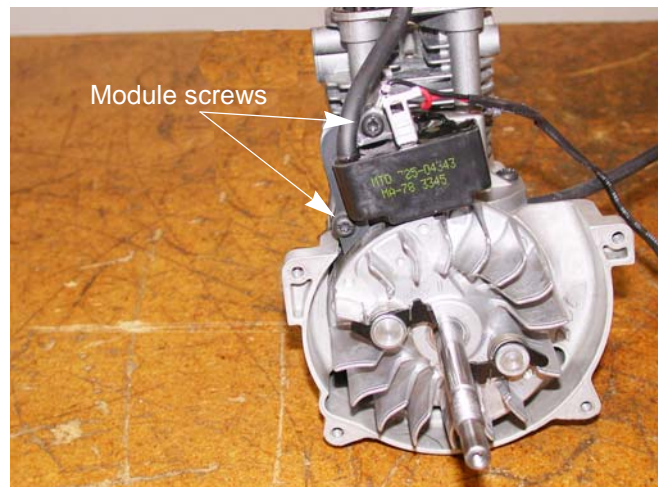

Figure 8.8
15. Remove the two screws that secure the ignition module to the block using a T-25 torx driver. See Figure 8.8.